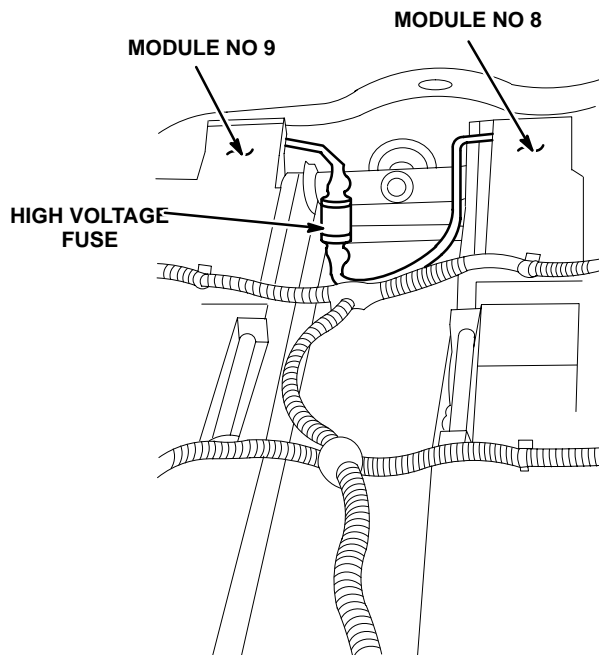

Fig. 13 High Voltage Fuse
- (5) Remove battery tub cover bolts (18).
- (6) Remove battery tub cover.
- (7) Disconnect high voltage fuse (fig. 13)